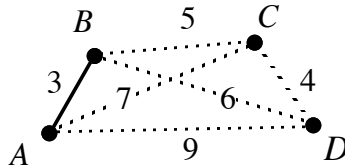

Figure 4: Selecting an edge between the starting vertex and its “nearest” vertex
- Starting with any vertex, select the edge to its “nearest” vertex. In other words, select the edge that has the least weight. In Figure 4, for example, the starting vertex is A. Since the edge connecting A and B has a weight less than those connecting A to C or to D, it is selected.